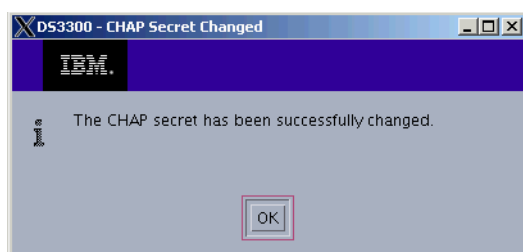

Figure 13-6 Storage Manager - Initiator CHAP Secret Changed
4. In the confirmation window, Figure 13-6, click **OK**.